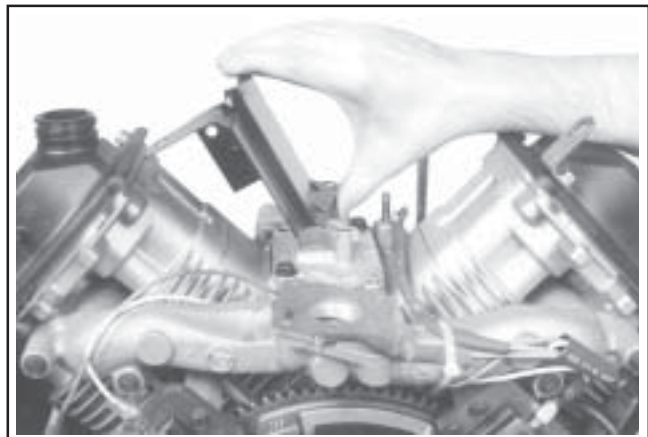

Figure 9-40. Removing Inner Baffles.
2. Remove both inner baffles. See Figure 9-40.
3. Remove the two remaining screws holding the breather cover to the crankcase. See Figure 9-40.